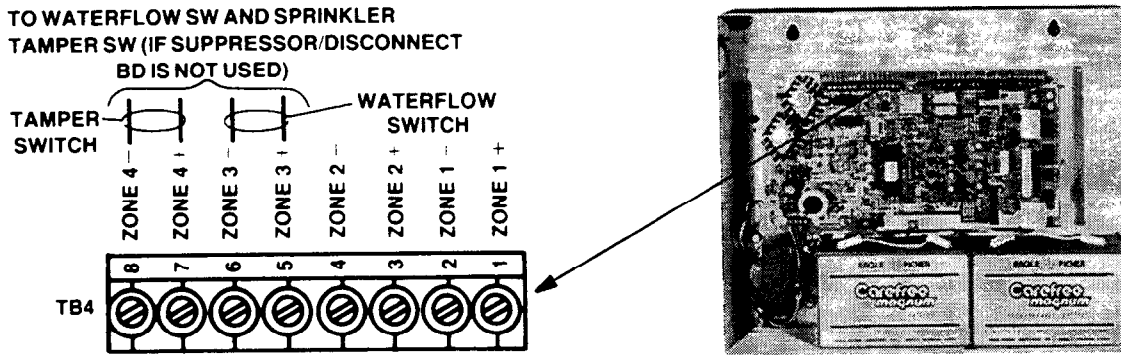

FIGURE 18
- A. Connect the waterflow switch (normally open) as shown in Figure 18. Make sure 3.3K resistor is connected to circuit as shown in wiring diagram 841-610.
- B. Connect the sprinkler tamper switch (normally closed) as shown in Figure 18. Make sure resistors (1K and 820Ω, 1 watt) are connected to circuit as shown in wiring diagram 841-610.